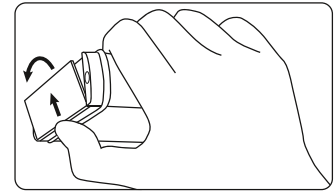

Abb. 1-2: Opening hinged cover
- ☞ Open the hinged cover fully as shown in Abb. 1-2.